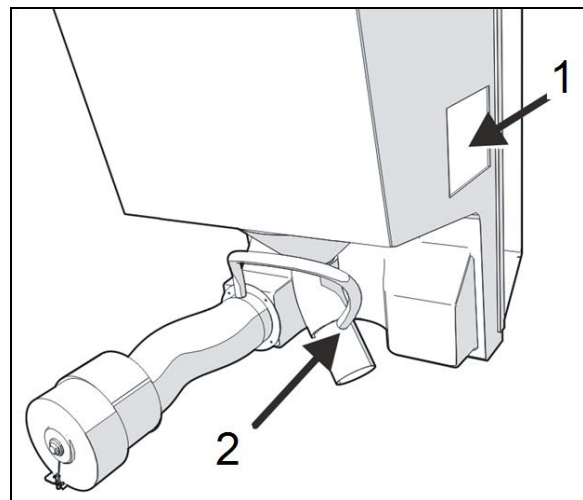

FIGURE 12
15. From the service access (item 1, Figure 12), remove hose collar and unplug the hose to the tube that runs to the sump tank.